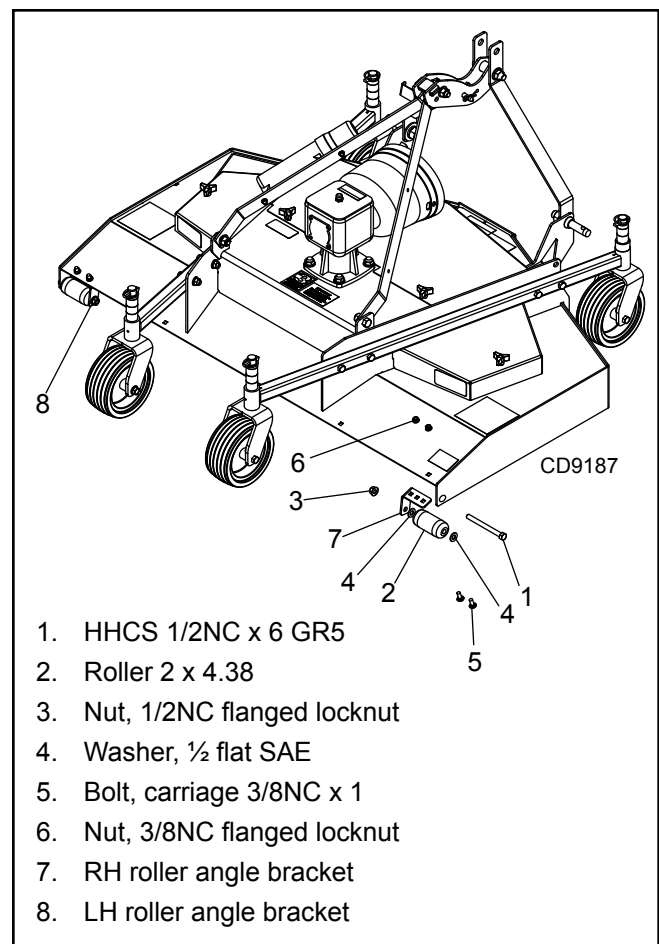

Figure 32. Rear Anti-Scalp Roller Installation
5. Install plastic roller (2) and two flat washers between roller angle bracket and side frame as shown in Figure 32. Install 1/2 x 6 cap screw (1) through side frame, roller, and then angle bracket. Retain with flanged lock nut (3). Do not over tighten. Rollers must turn freely.